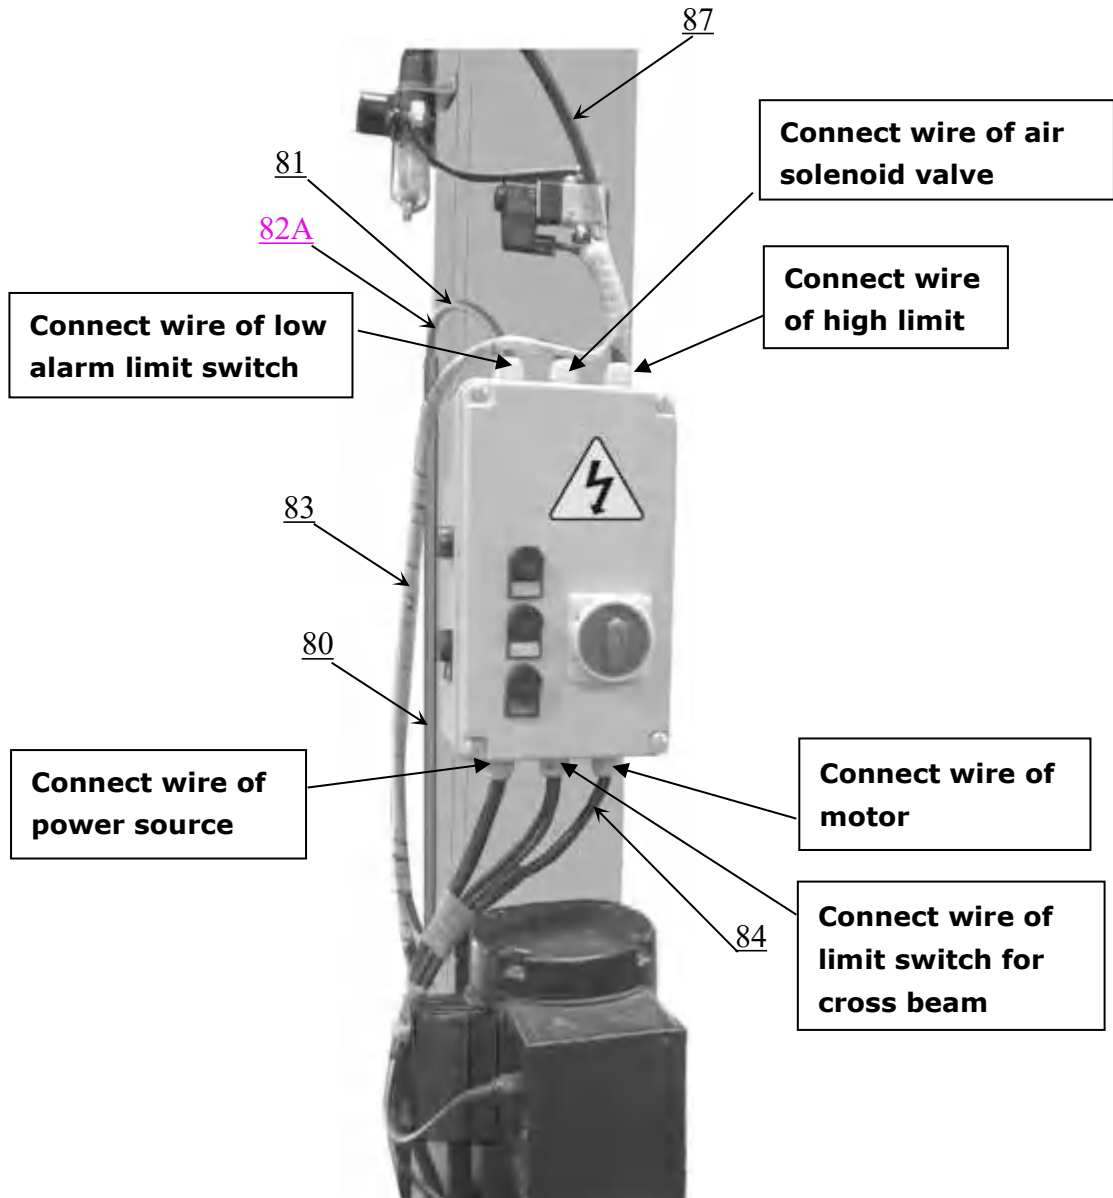

Fig. 41
4. Connecting wire with control box (See Fig. 41).